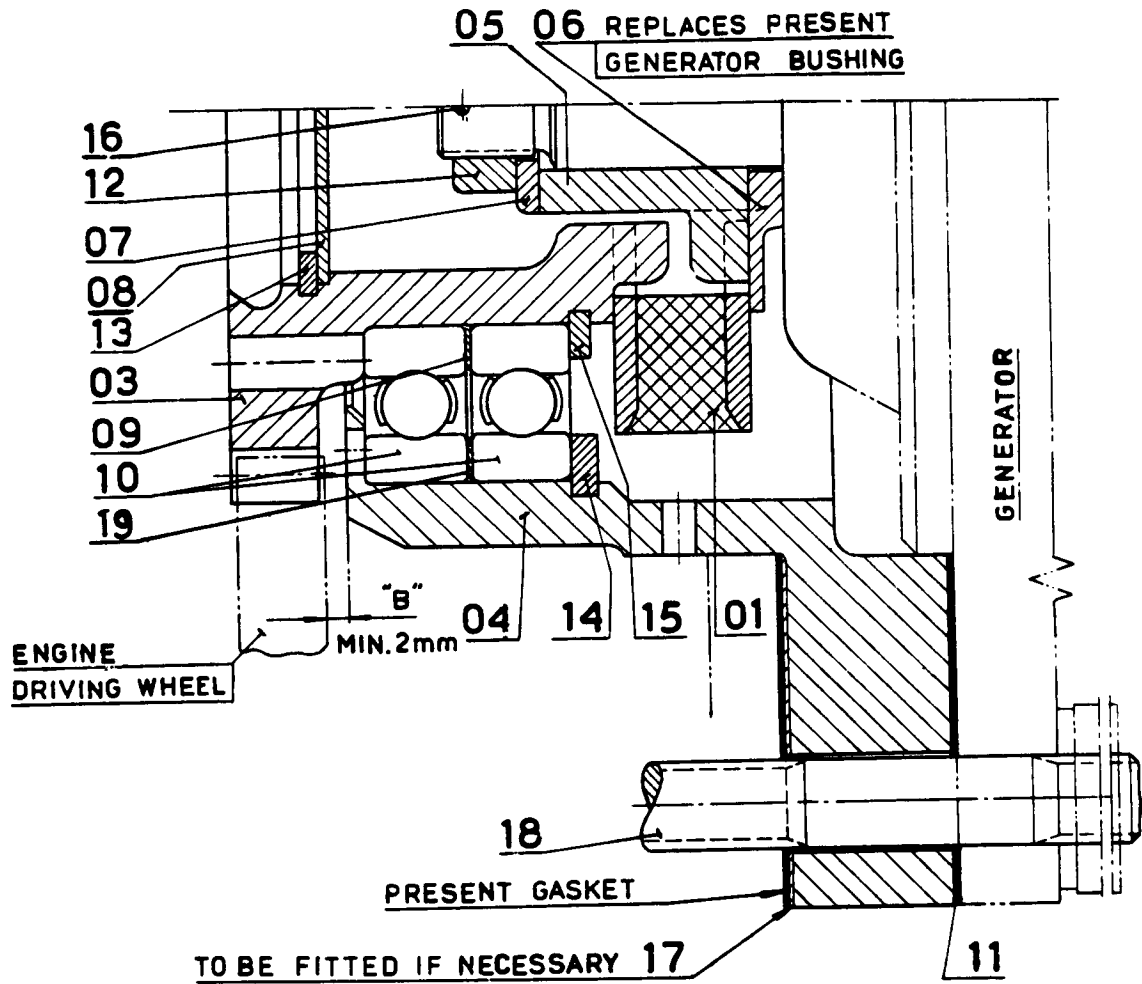

Fig.1
Ref. figure 1
Replace the obsolete screws on the engine by the new ones item 18 fig. 1. Install the new generator with generator coupling SA 594803. Check the play to be min. 2 mm between the engine drive gear and the coupling bearing housing item 04 according to figure 1. If this should not be the case, adjust with shim item 17.
Dismount the generator and remove the obsolete coupling. Replace the obsolete screws on the engine by the new ones item 18 figure 1. Replace the bushing on the generator by bushing item 6. Assemble the generator according to figure 1. Attach the coupling with gasket item 11 to the generator and engine without tightening the screw bolts. Check that there is no play between the bearing housing item 4 and the generator. If so fit another gasket item 11. If play still exists file bushing item 06 as to eliminate the play. Check the play to be 2 mm between the engine drive gear and the coupling bearing housing item 4 according to figure 1. Should this not be the case, adjust with shim item 17. Tighten the bolts that attach the generator and coupling to the engine.